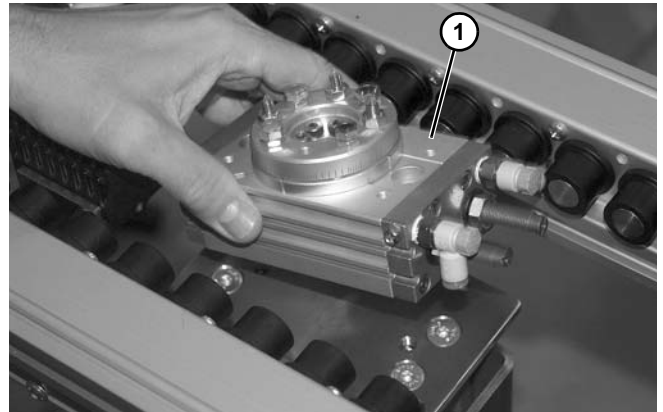

Figure 124
7. Remove rotate cylinder (**Figure 124, item 1**).